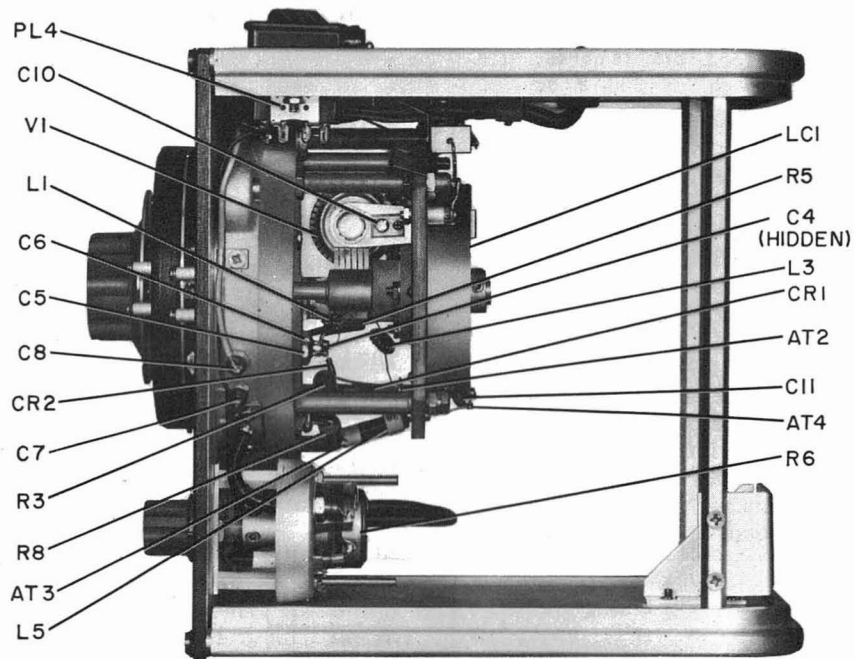

Figure 6-4. Interior top view with shield covers removed.
- b. Slide the rf shield cover off. Figure 6-4 identifies the major interior components.